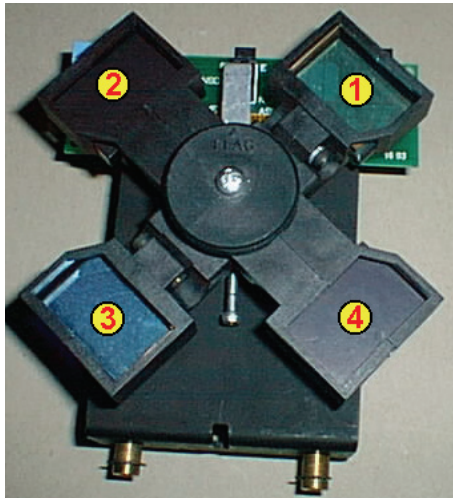

Figure 91 Positions for the excitation wheel
- The positions for the excitation wheel are shown in Figure 91.